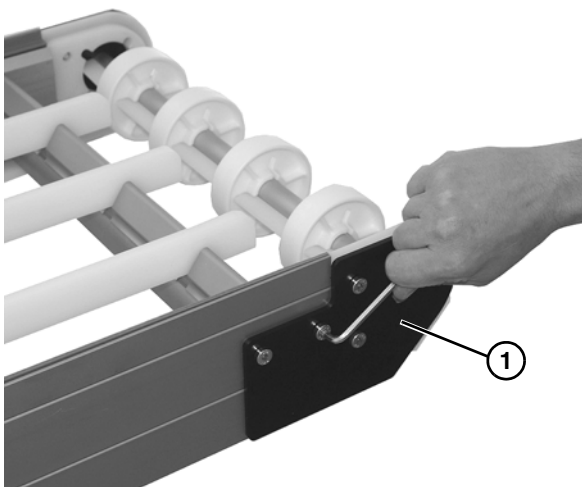

Figure 32
1. Remove conveyor idler end (**Figure 32, item 1**). See “C - Idler Spindle Removal” on page 20.